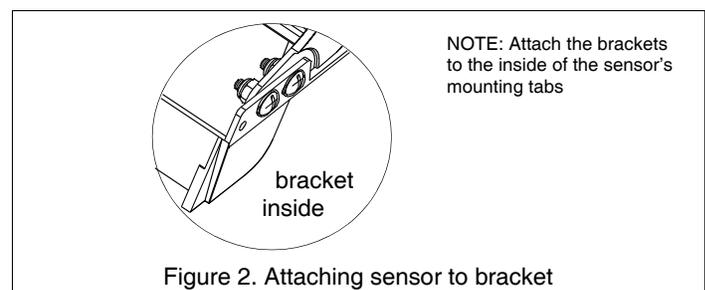

Figure 2. Attaching sensor to bracket
3. P52—Attach the sensor to the bracket by placing the bracket inside (see Figure 2). Use four #10-32x5/8" screws and flat washers. Fasten them in place with nylon-insert lock nuts, nylon side facing outward. Tighten the screws, so the sensor remains in place but can be adjusted.